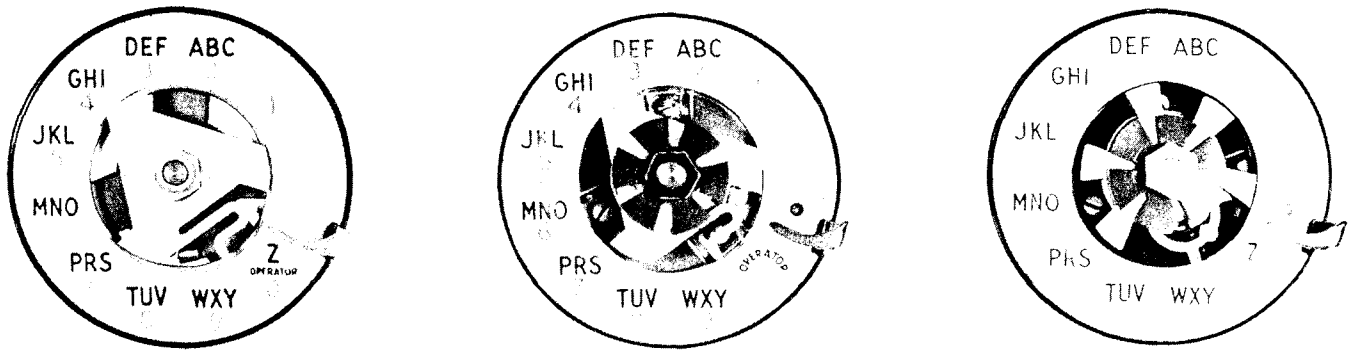
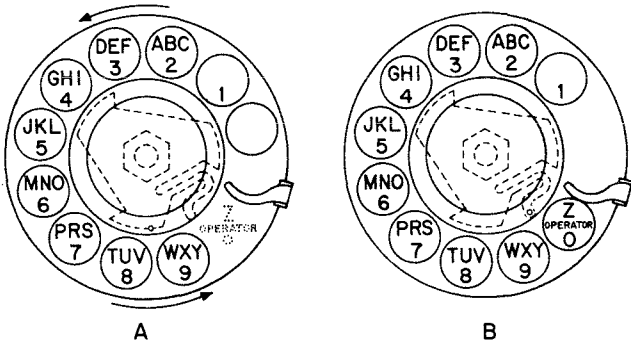

Fig. 15—Clamp Plates Mounted on Dials
Fig. 16—Replacing Plastic Fingerwheels
- (1) With dial in normal position, place fingerwheel clamp on dial hub so that spring portion is near digit 9 on number plate, as shown in Fig. 15.
- (2) Place fingerwheel washer and nut on hub and tighten (omit spring washer on 5-type dial).
- (3) Place station number card in fingerwheel between window and card support.
- (4) Place fingerwheel over clamp with 0 hole directly on digit 9, making sure fingerwheel depressions are properly positioned on prongs of clamp plate, as shown in Fig. 16 (A).
- (5) Rotate fingerwheel in counterclockwise direction until clamp spring snaps into notch on underside of fingerwheel, as shown in Fig. 16 (B).